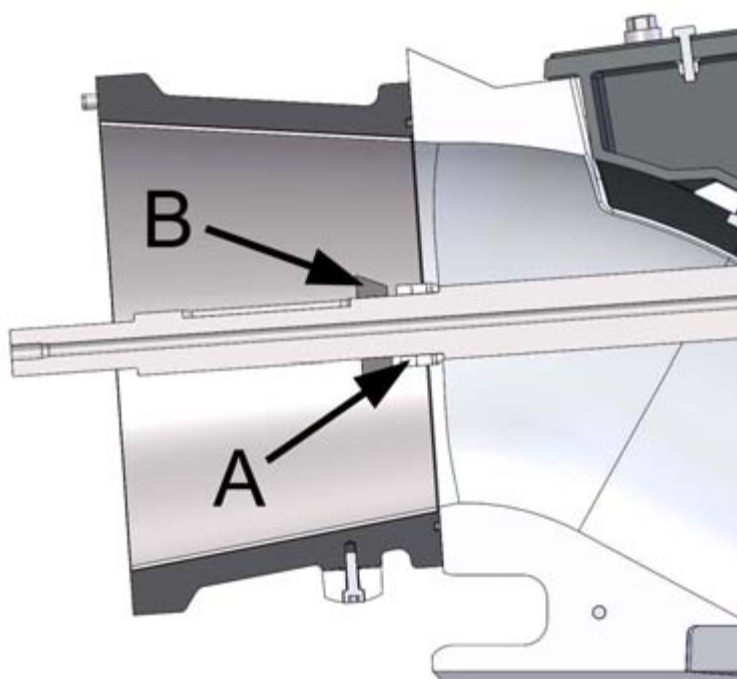

Figure 33. Adjuster sleeve
The thrust caused by the impeller is transmitted through the adjuster sleeve to the shaft (figure 33, point A). The sleeve consists of rings of different thickness. The length of the sleeve can be adjusted in 0.5 mm (approx. 0.02") increments by changing the number of the rings. This way the impeller gap on the outer race becomes fit.
3. Push the sleeve and the plastic insulating ring on to the shaft (figure 33, point B). The insulating ring sits against the impeller.